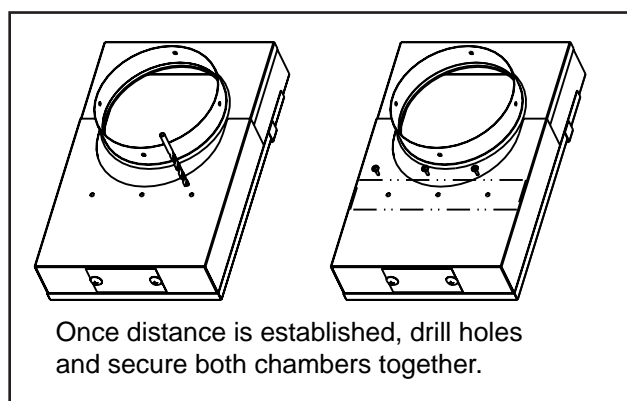

Figure 39.4
3. Adjust the offset adapter to desired distance. Drill holes through the lower chamber as shown in **Figure 39.4** using the small drill bit #26 provided.